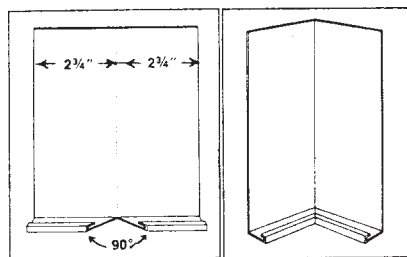

FIG. 40 Prefabricating Corner Cap
- 11.5.2 A corner cap can be prefabricated or fashioned from a piece of fascia cover. Cut a 5½-in. (140-mm) length of fascia cover and mark a vertical centerline on the back as shown in Fig. 40. Cut out a 90° section of bottom flange from the center, leaving 45° on each side. Using a hand seamer, fold along the centerline to form a right angle.